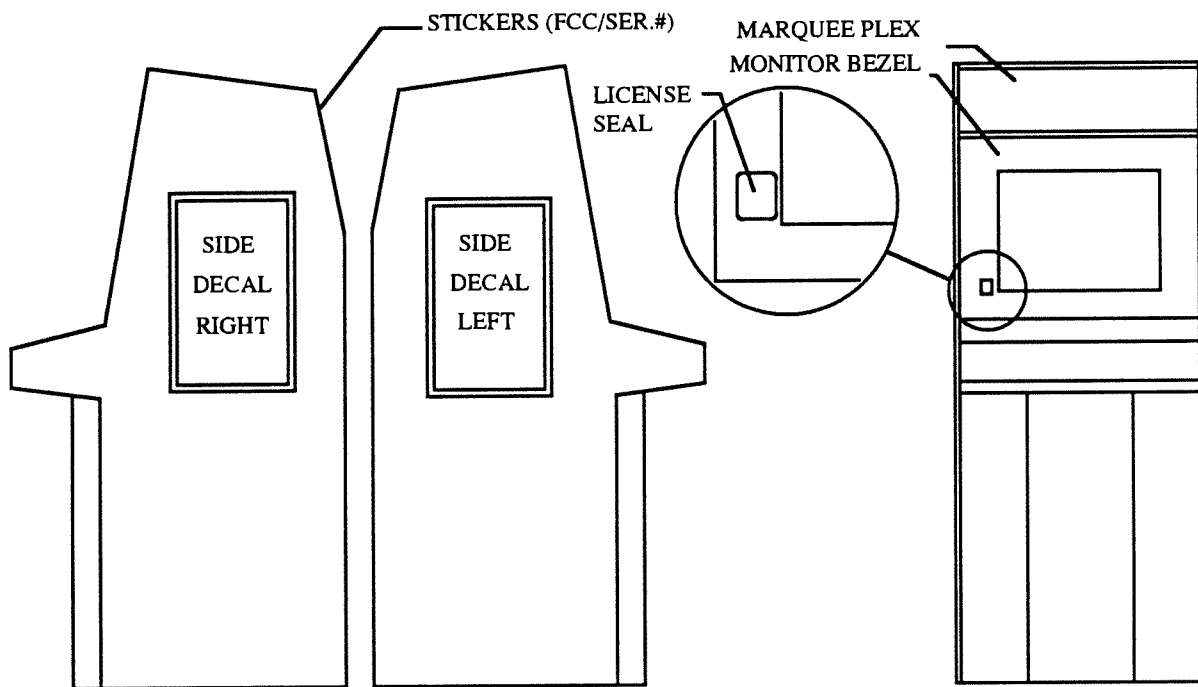

Figure 1
36. Locate the Kit SERIAL NUMBER STICKER and FCC STICKER. Install these stickers on the rear of the game cabinet. (see figure 1 )